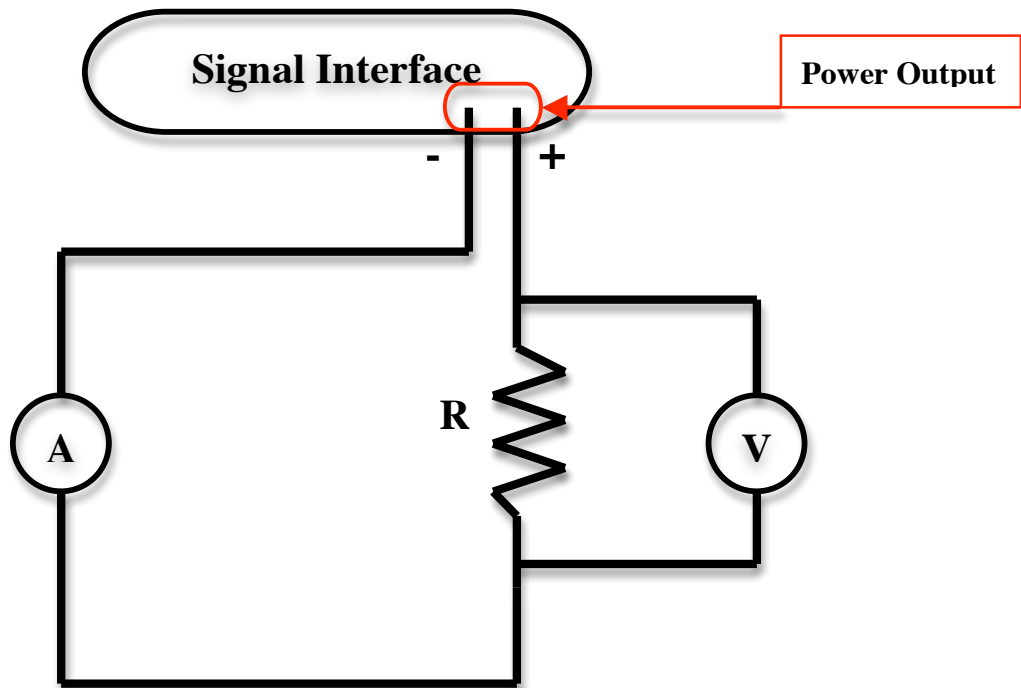

Figure 3 Circuit Diagram for Procedure A
- 2) Connect the circuit shown in Figure 3, using the resistor labeled as “100 Ω ” on the circuit board. Our “voltmeter” is actually our computer connected to the Signal Interface. Voltmeters have a relatively **high** resistance and are placed in **parallel** with the resistor. Our “ammeter” is a multimeter. Ammeters have relatively **low** resistance and are placed in **series** with the resistor.
- 1) Switch the wires on the circuit board so that you will measure the resistor marked 33Ω in the circuit shown in Figure 3. Sometimes the tolerance marking is hard to see on this resistor, if this is the case you should use 5% as the tolerance.
- 2) Repeat steps 2-6 for Procedure (A) with the 33Ω resistor and fill in Table 2 and the experimental value for the resistance and its uncertainty.